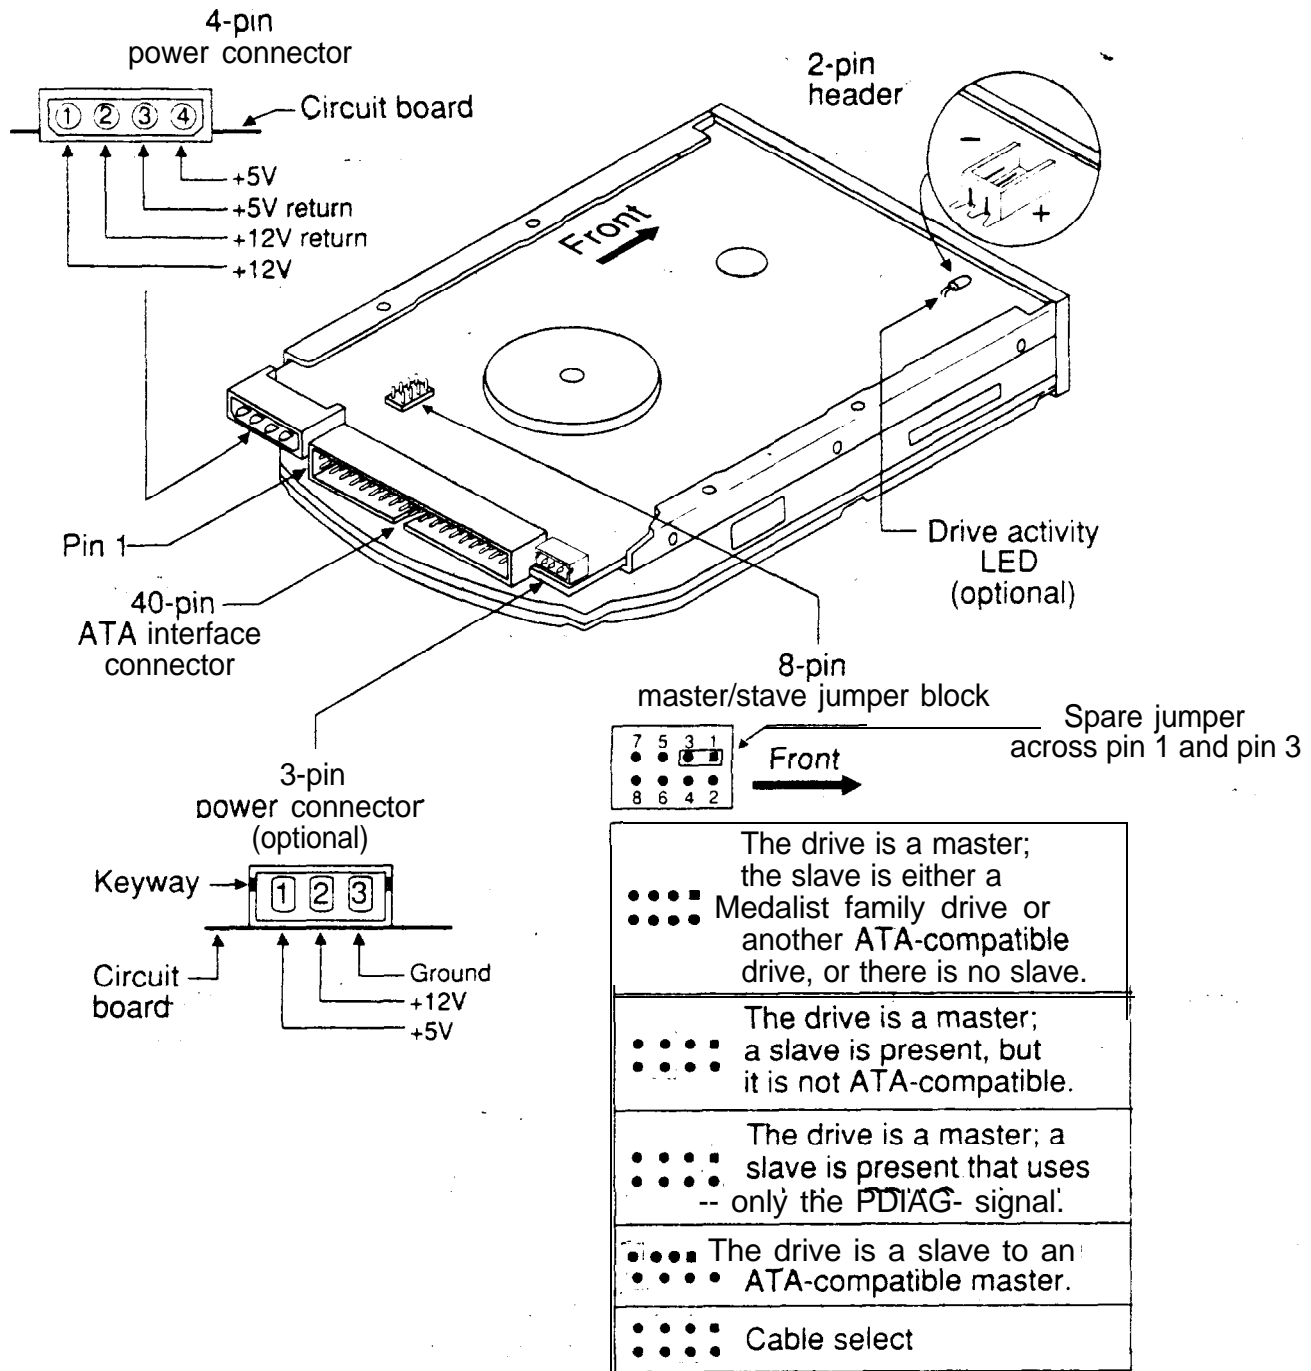

Figure 1. Jumpers and connectors
2. Install master/slave jumpers. The master/slave configuration is set using the jumper block shown in Figure 1 on page
Installing two drives: Your Seagate drive may be installed with another ATA-compatible drive. Your system may use either a standard ATA interface cable or the cable-select method. The chart in Figure 1 shows the jumper settings for the master and slave configurations.
Attach one end of the cable to the drive's 40-pin ATA interface connector. Align the cable's edge-stripe with pin 1 of the drive shown in Figure 1. Attach the other end of the cable to the host adapter card or to the hard drive connector located on the motherboard. Align the cable's edge-stripe with pin 1 (see your system user's guide or host adapter user's guide).
You need an interface cable designed for two drives. Attach a cable connector to each drive's 40-pin ATA interface connector. Align the cable's edge-stripe with pin 1 of the drive shown in Figure 1. Attach the other end of the cable to the host adapter card or to the hard drive connector located on the motherboard. Align the cable's edge-stripe with pin 1 (see your system user's guide or host adapter user's guide). You can attach the drives in any order on the cable.